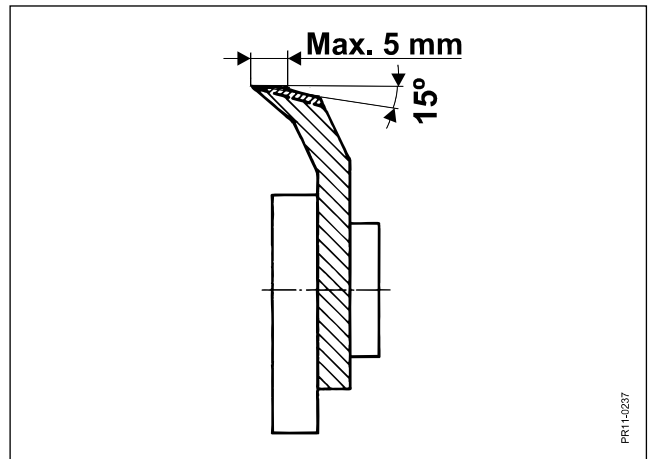

Fig. 4.15
- Fig. 4.15** To avoid unnecessary power consumption during cutting and excessive wear of the grindstone, a rough grinding or adjustment of the knives (grind the rear edge down to an angle of approx. 15°) is recommended when the cutting edge is 5 mm wide or more.